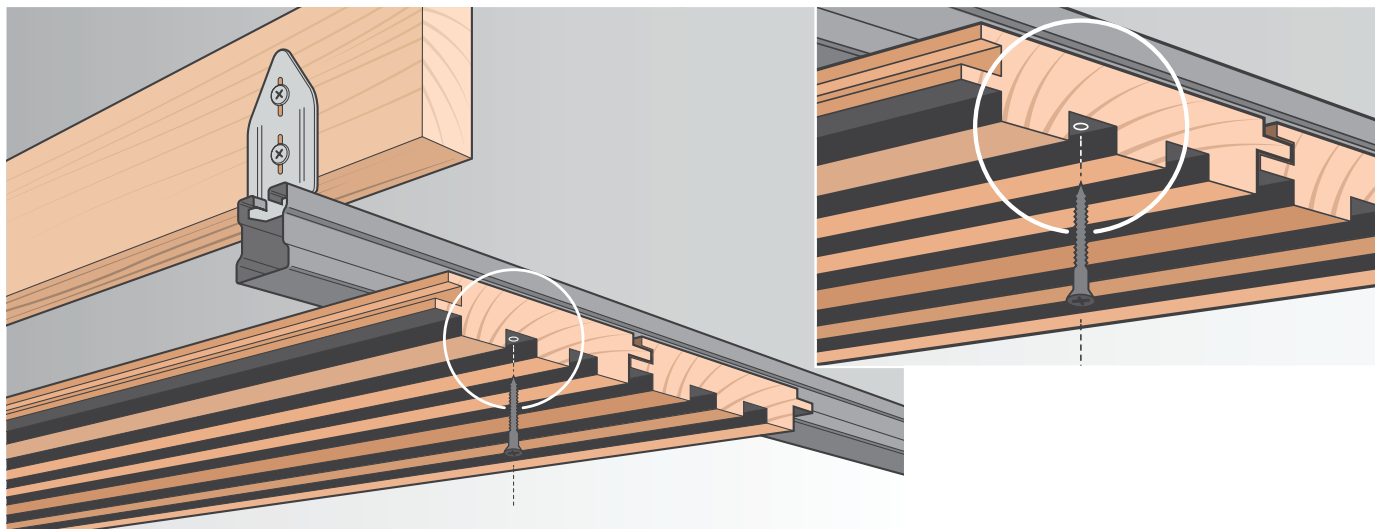

Figure 3: Panelling installation using metal track system and face fix: face screw directly using a coloured head screw (see Figure 4).
- **Castelation® panelling with channels**, can be screwed through the channel to the metal track. One screw per board, per track is sufficient (see Figure 3). This works particularly well with the Castelation® TwoTone product as the screw heads can be painted the same colour as the channels.